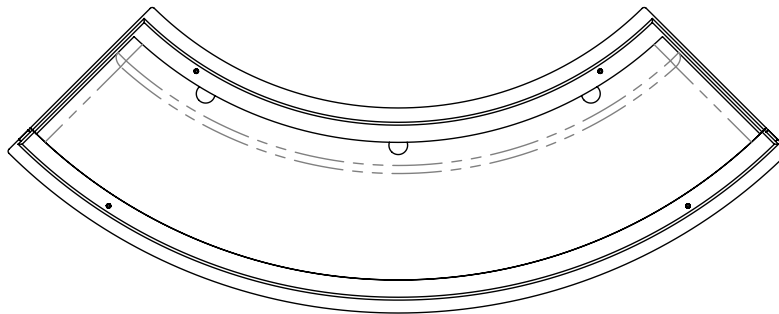

Fig. 5
*The GFRC base will have existing holes (fig. 5) for drainage and should not be used for anchoring.*